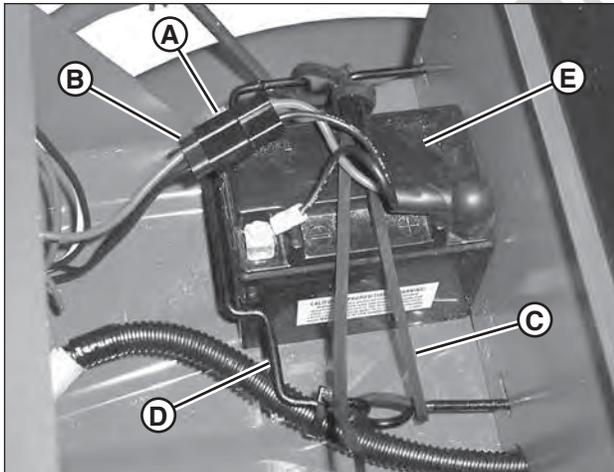

Figure 32: Battery (sealed lead acid type)
2. Disconnect the battery harness (A, Figure 32) from the main harness (B).
3. Unhook one end of the battery strap (C) from the wireform (D).
4. Carefully remove the battery (E).
2. Using a manufacturer-approved battery charger (not supplied), plug the connector on the battery charger (not shown) into the battery harness connector (A, Figure 32).
2. Install the battery (E, Figure 32) into the battery compartment, orientating it in the wireform (D) as shown.
3. Secure the battery with the battery strap (C), hooking the loose end onto the wireform. Be sure to pass the strap under the battery harness wires.
4. Connect the main harness (B) to the battery harness (A).